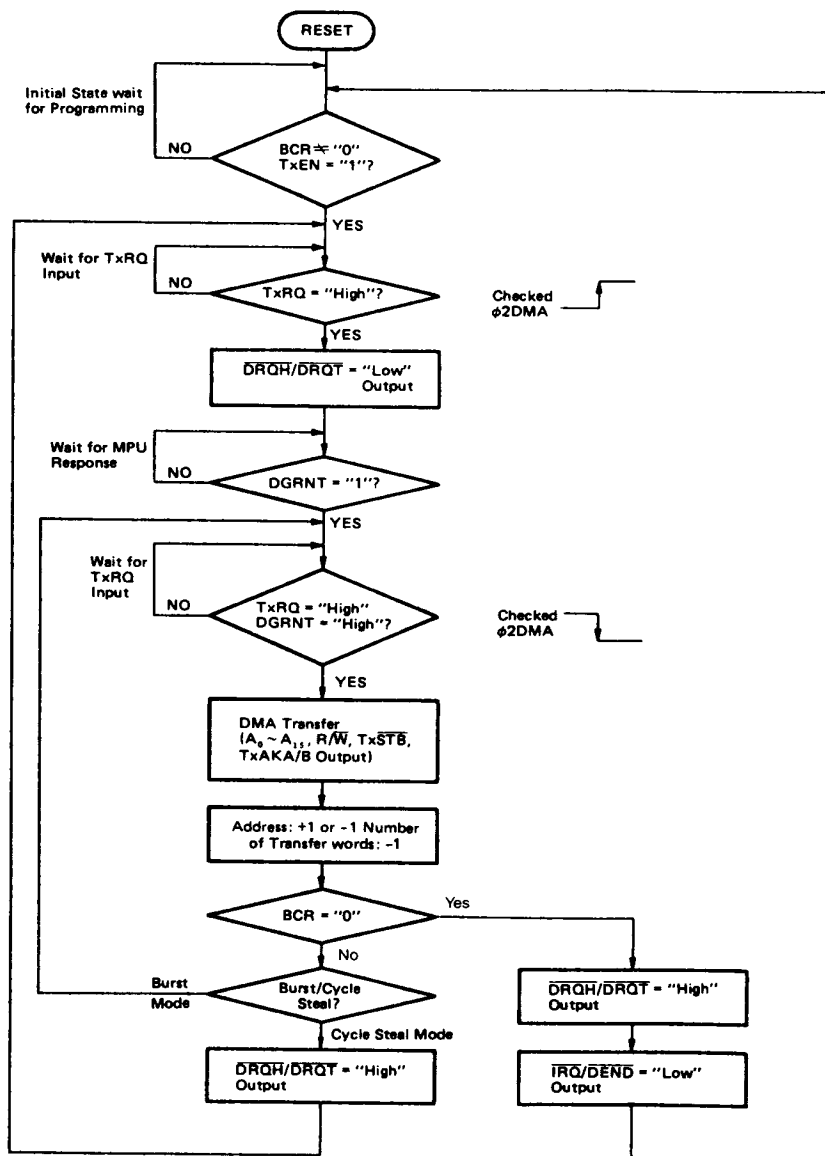
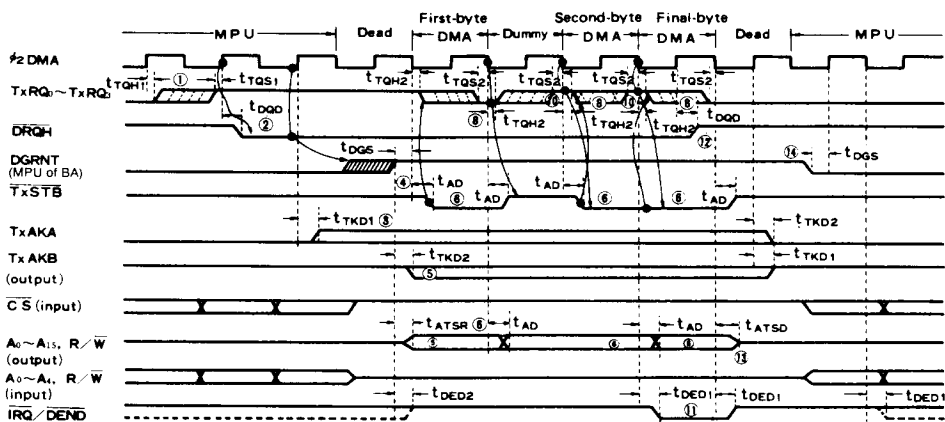
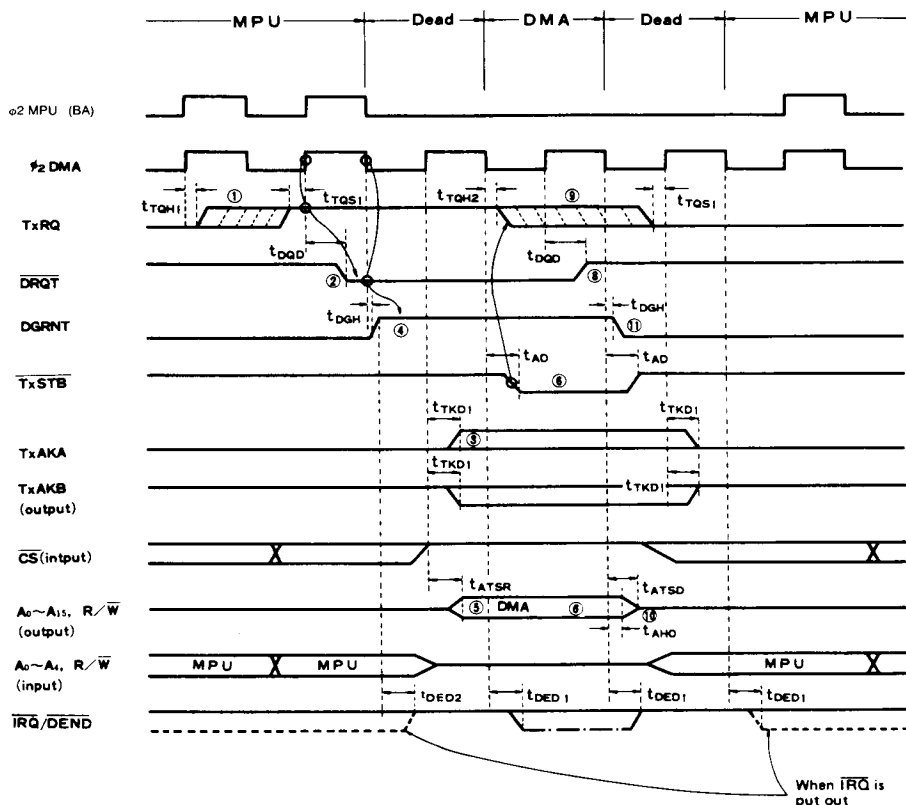

Figure 13 Flow Chart of DMAC Operation
Figure 16 HALT Burst Mode
Figure 17 TSC Cycle Steal Mode
Timing chart is shown in Fig. 12 and flow chart is shown in Fig. 13. Procedure of transfer operation is the following. (No. ① ~ ⑩ in Fig. 12 correspond to the following items.)
- ① TxRQ₀~TxRQ₃ input is checked at the rising edge of ϕ_2 DMA. When it is at "High" level, it gets into the following operation.
- ② DRQH="Low" is output and MPU is requested to stop its operation.
- ③ TxAKA is driven (Level output).
- ④ MPU stops its operation and DMAC waits until DGRNT goes to "High" level.
- ⑤ When DGRNT goes to "High" level, DMAC drives TxAKB, A₀~A₁₅ and R/W lines.
- ⑥ TxSTB is given to perform DMA transfer.
- ⑦ Address is incremented or decremented by one and number of transfer words is decremented by one.
- ⑧ When DRQH rises to "High" level, MPU gets into Instruction Cycle again.
- ⑨ TxRQ falls to "Low" level.
- ⑩ A₀~A₁₅ and R/W get into high impedance state again.
Its timing chart and flow chart are shown in Fig. 16 and Fig. 13 respectively. Procedure of transfer is the following (No. ① ~ ⑭ in Fig. 16 correspond to the following items).
- ① TxRQ input is checked at the rising edge of ϕ_2 DMA. When it is at "High" level, it gets into the following operation.
- ② \overline{DRQH} ="Low" level is given and MPU is requested to stop its operation.
- ③ TxAKA is driven.
- ④ MPU stops and DMAC waits for DGRNT rising "High" level.
- ⑤ When DGRNT rises "High" level, DMAC drives TxAKB, $A_0 \sim A_{15}$, and R/W lines.
- ⑥ TxSTB is sent out to perform DMA transfer.
- ⑧ TxRQ falls to "Low" level.
- ⑨ When number of transfer words is 0, from ⑪ to ⑭ operations are performed.
- ⑩ When BCR is not "0", TxRQ is checked at the falling edge of ϕ_2 DMA. When TxRQ is at "High" level, DMA transfer is performed through ⑥ ~ ⑧ again. When TxRQ is not at "High" level, DMAC waits for becoming "High" level.
In burst mode, TxRQ should be also, in principle, set to "High" when I/O request is asserted, and reset to "Low" when TxSTB goes to "Low". If TxRQ is asserted as level input without being reset, DMA transfer is performed at all cycles of ϕ_2 DMA since TxRQ is always at "High" level at the falling edge of ϕ_2 DMA. Its example is shown in the second-byte and the third-byte transfer in Fig. 16.
Its timing chart and flow chart are shown in Fig. 17 and Fig. 13 respectively.